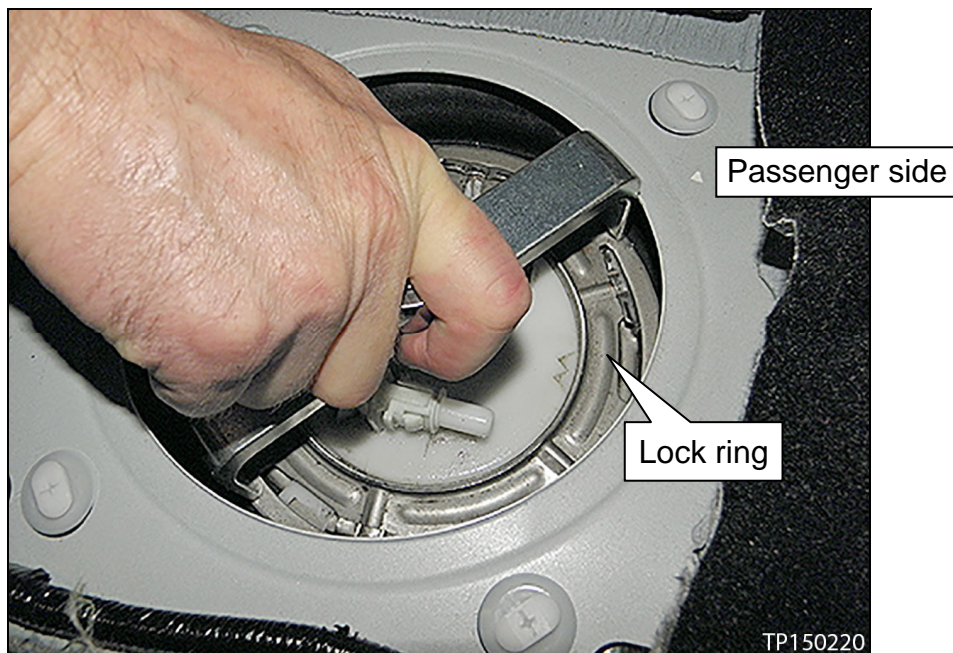

Figure 8
15. Remove the lock ring from the fuel pump assembly with Lock Ring Wrench # J-45747 (see Figure 8).